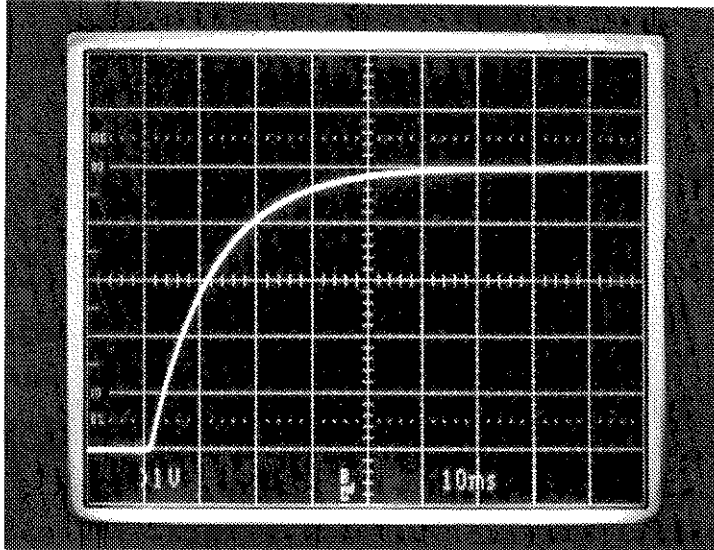

Figure 13: Photograph of a Single-Shot Signal
- Step 11:** Remove and develop the film. The results should be similar to Figure 13.